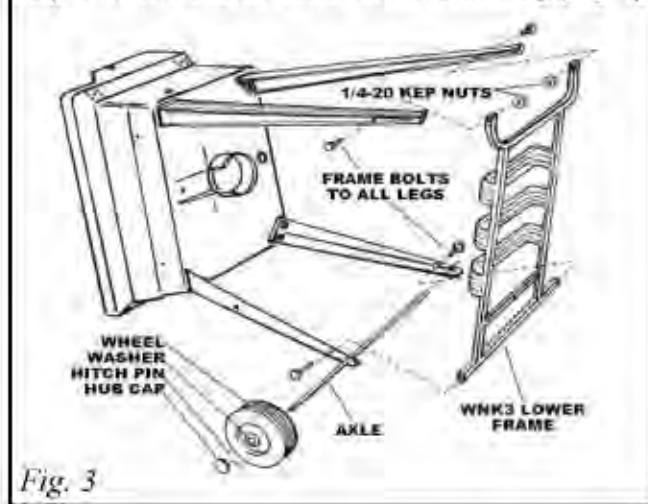

Fig. 3
1. Bolt shelf to the (4) legs as follow:
(A) WCP and WCN (Fig. 3) carts uses (2) 1/4-20x 1-1/2" slotted bolts and Kep nuts to fasten the frame to the long legs and (2) 1/4-20x3/4" slotted head bolts to fasten the frame to the short legs.
Step 3: WCP3/WCN3 Lower Shelf Assembly (Fig. 3)